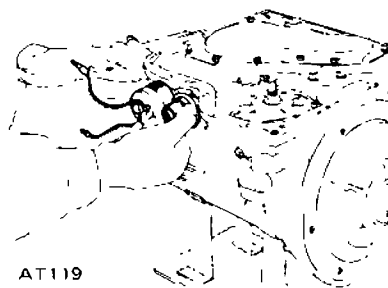

Fig AT 53 Downshift solenoid vacuum diaphragm
4. Remove downshift solenoid vacuum diaphragm. Do not leave phragm rod at this stage of assembly. Rod is assembled in top vacuum diaphragm. See Figure AT-53.